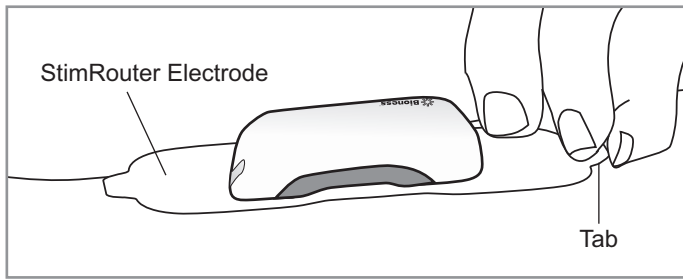

Figure 10-5: Removing the StimRouter Electrode
1. Make certain that stimulation is turned off. Then grasp the tab on the StimRouter Electrode and gently pull away from the skin. See Figure 10-5.